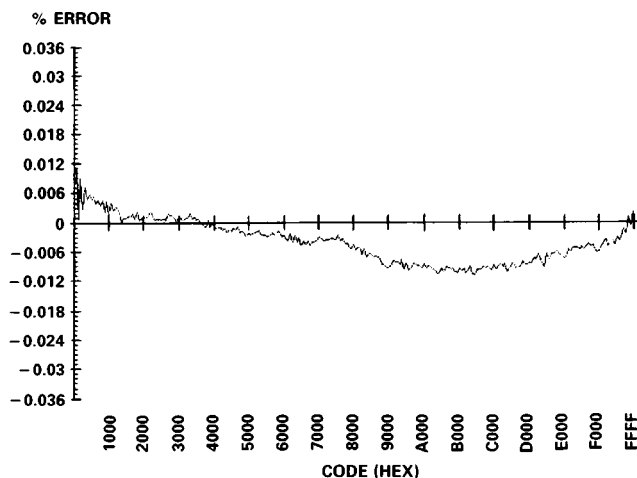

Figure 4. Typical Linearity
**LINEARITY ERROR:** Analog Devices defines linearity error as the maximum deviation of the actual, adjusted DAC output from the ideal output (a straight line drawn from 0 to FS-1LSB) for any bit combination. The AD569's linearity is primarily limited by resistor uniformity in the first divider (upper byte of 16-bit input). The plot in Figure 4 shows the AD569's typical linearity error across the entire output range to be within  $\pm 0.01\%$  of full scale. At 25°C the maximum linearity error for the AD569JN, AD and SD grades is specified to be  $\pm 0.04\%$ , and  $\pm 0.024\%$  for the KN and BD versions.